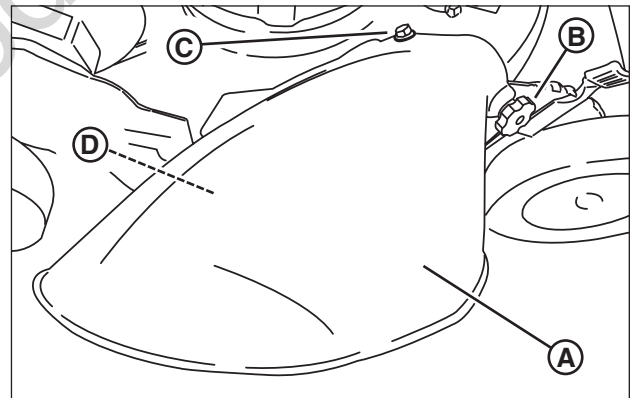

Figure 9: Installing the discharge deflector
2. Install the deflector (A, Figure 9) to the deck in place of the mulching cover, making sure that:
- The front hole (B) on the outside front of the deflector fits over the stud where the front of the mulching cover was originally secured;
- The slot (C) on top of the deflector slips under the restraining nut on top of the deck (under the right front corner of the engine);
- The slot (D) on the inside rear of the deflector slips onto the stud behind the rear of the discharge opening, where the rear of the mulching cover was originally secured.